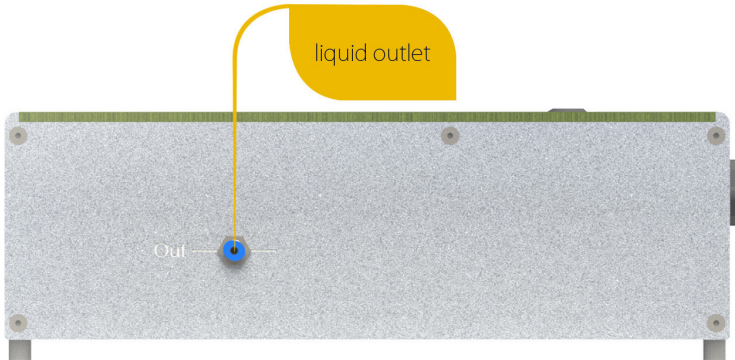
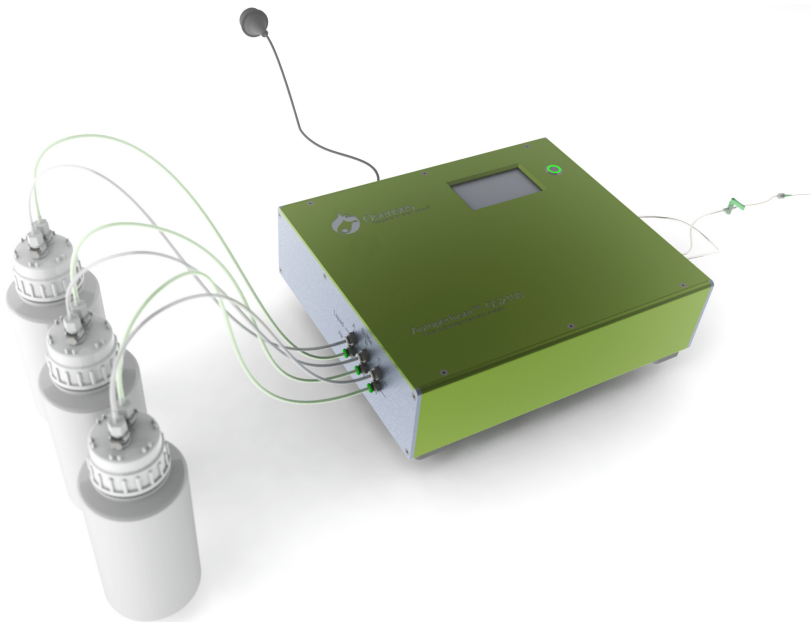

Figure 2. Right side panel of Autoperfuser™ OS2100
Figure 4. Fully assembled Autoperfuser™ OS2100
- Connect the clear tubing to the liquid outlet (Figure 2) by push it firmly in. Using the two-way stopcock provided connect one extension tubing to the end of the tubing. Now, attached an appropriate needle to be connected to the animal (Figure 4).
- A fully assembled Autoperfuser™ OS2100 will look as shown in Figure 4.